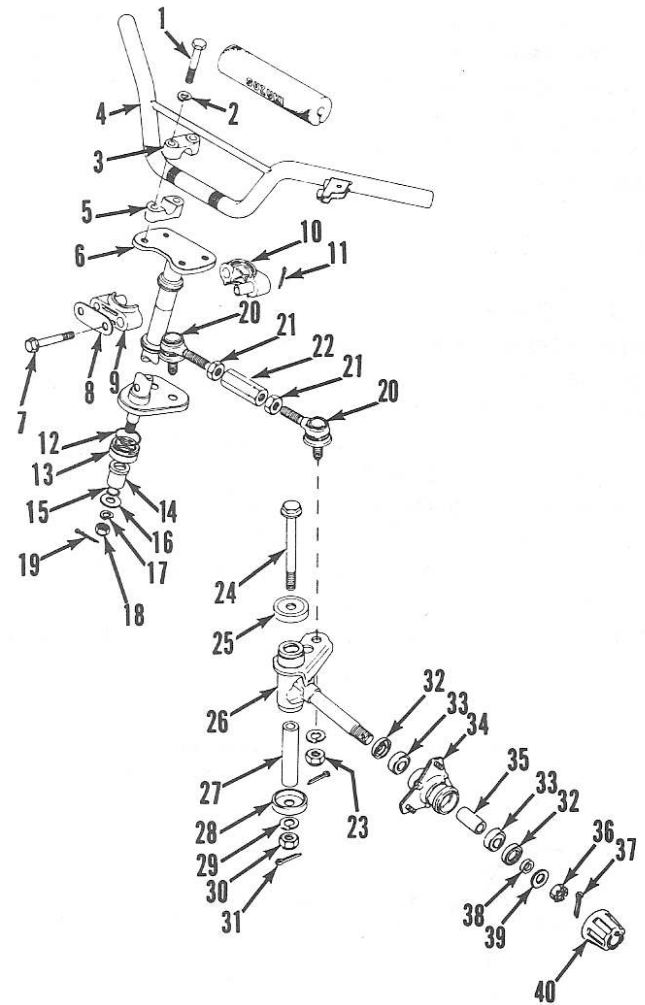

Fig. S1-12—Exploded view of steering and front axle assembly used on LT50 models.
R&R AND OVERHAUL. Refer to Fig. S1-12 for exploded view of front axle assembly used on LT50 models. To remove either wheel hub (34), remove front wheel and axle nut (36). Pull wheel hub (34) off spindle (26). Do not lose spacer (38). Drive seals (32), bearings (33) and spacer (35) from hub (34) if necessary.
To adjust, loosen tie rod locknuts (21—Fig. S1-12) on both left and right tie rods. Tie rod end locknuts (21) color-coded yellow have left-hand threads. Rotate adjusters (22) in equal increments to maintain equal vehicle centerline to left and right tire center line distances. Tighten tie rod locknuts to 21.7-34.5 N·m (16.0-25.5 ft.-lbs.) torque.
R&R AND OVERHAUL. Removal and disassembly of steering components is evident after inspection of unit and referral to exploded view in Fig. S1-12. During reassembly, renew all cotter pins. Lubricate all friction points with a good quality grease. Tighten steering shaft clamp cap screws (7) to 17.6-27.1 N·m (13-20 ft.-lbs.), steering shaft lower nut (18) to 21.7-34.6 N·m (16.0-25.5 ft.-lbs.) and tie rod end retaining nuts (23) and spindle nuts (30) to 39.3-58.9 N·m (29.0-43.5 ft.-lbs.) torque.